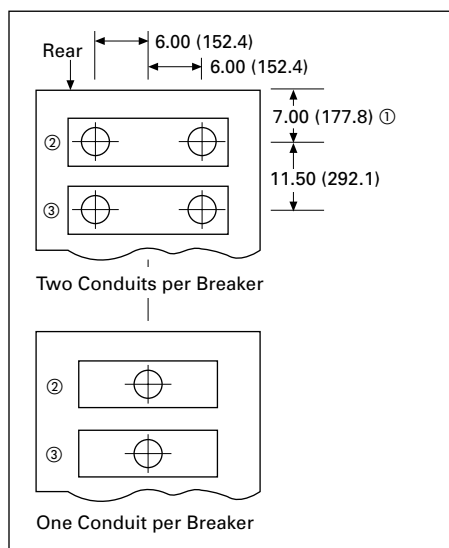

Figure 5.1-30. Primary Conduit Locations for Stacked Breakers
① Power cable entrance area. Refer to **Figure 5.1-30** for typical conduit locations. Refer to shop drawings for order specific locations.
- ② Power cable entrance area. Refer to **Figure 5.1-30** for typical conduit locations. Refer to shop drawings for order specific locations.
- ③ Recommended minimum clearance to rear of VacClad-W.
- ④ Floor steel, if used, must not exceed this dimension under VacClad-W.
- ⑤ Anchor locations: 5A and 5B for seismic applications, 5A only for non-seismic application. For indoor, use 0.5-inch (12.7 mm) bolts or weld.
- ⑥ Station ground connection provision.
- ⑦ Secondary conduit space: All—maximum of 1.00-inch (25.4 mm) projection.
- ⑧ Minimum clearance to LH side of VacClad-W. Minimum clearance to RH side of the switchgear: 6.00 inches (152.4 mm).
- ⑨ Finished foundation surface shall be level within 0.06-inch (1.5 mm) in 36.00 inches (914.4 mm) left-to-right, front-to-back, and diagonally, as measured by a laser level.
- ⑩ Minimum clearance to front of VacClad-W.